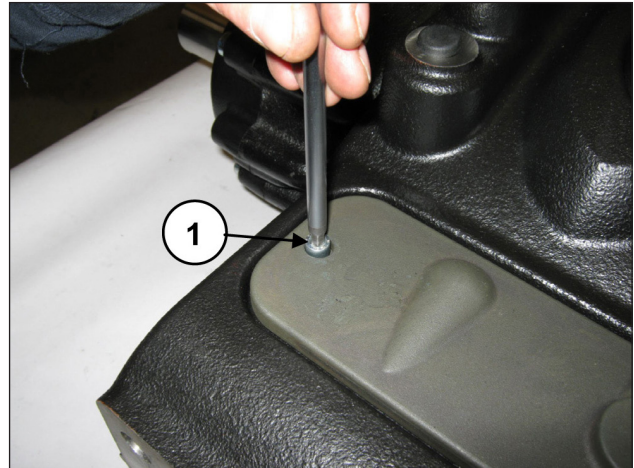

Fig. 167
Remove the upper inspection cover, unscrewing the 2 fixing screws (pos. ①, Fig. 167).